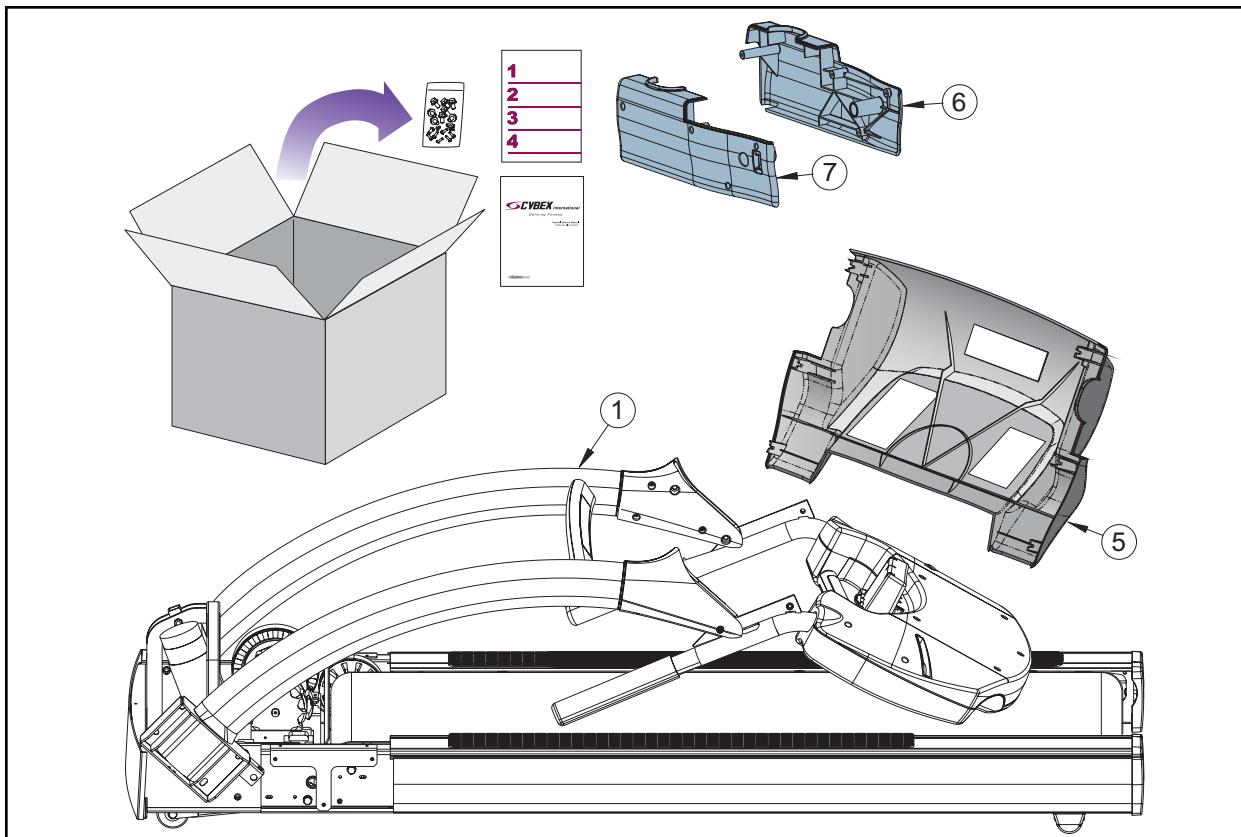

Figure 1
B. Check to be sure that the following items are present. Check off () each item as you find it. See Figure 1. If any of the parts are missing contact Cybex Customer Service.